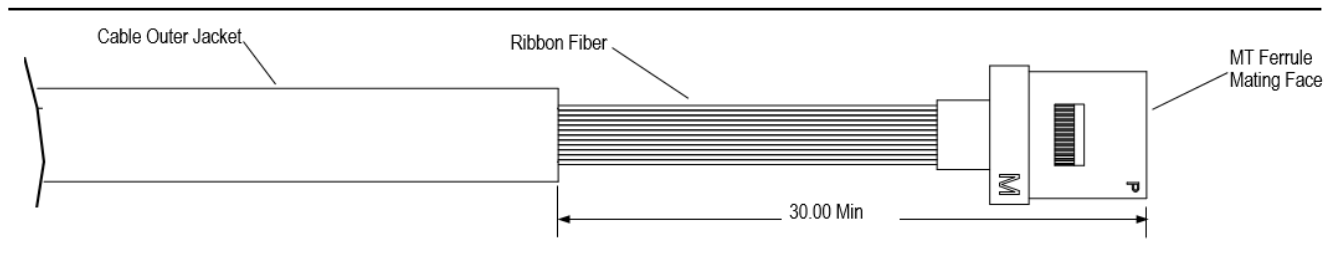

Figure 11
3.8. Ribbon Fiber Requirements (Figure 11)
When using jacketed fiber having a thickness greater than 1 mm [.039 in], the outer jacket layer must be removed at least 30 mm [1.181 in.] from the end of the MT-terminated end as shown in Figure 11. This is necessary to allow sufficient clearance to fit through the retainer plate slot feature and to accommodate a right-angle bend without over-stressing the ribbon fiber.